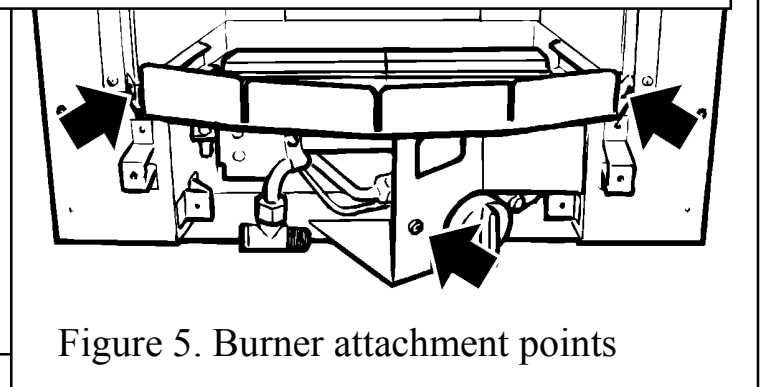

Figure 5. Burner attachment points
3. Detach the burner unit from the convection box by removing three screws. See figure 5. Lift the burner unit clear.